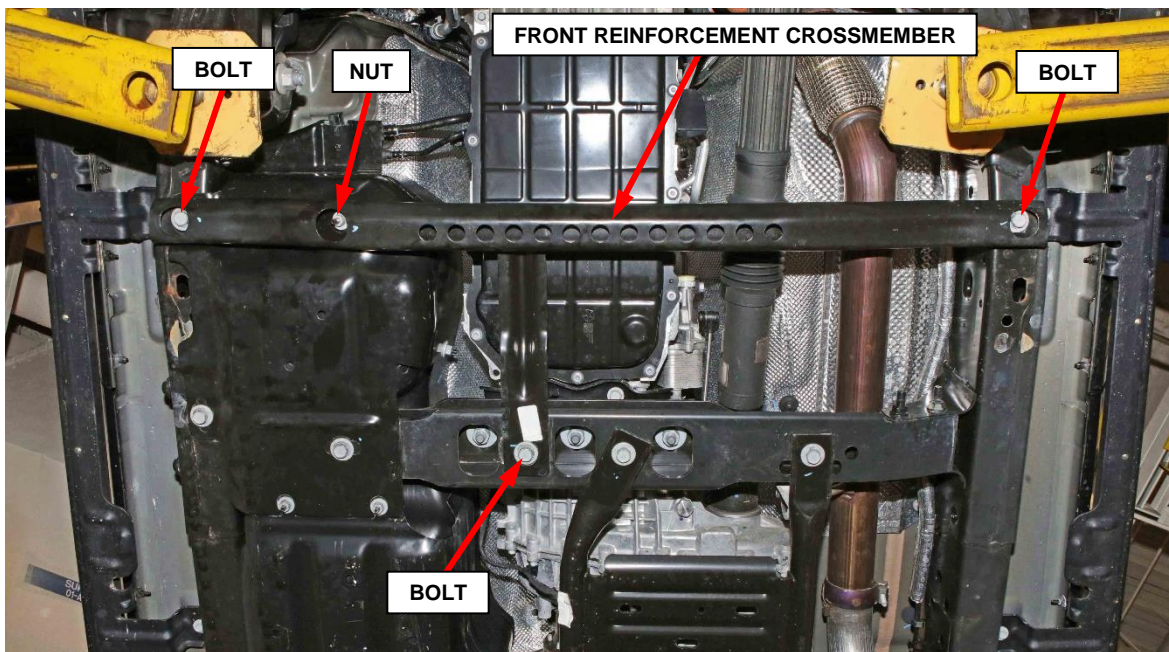

Figure 2 – Front Reinforcement Crossmember
2. Remove the fasteners, three bolts and one nut securing the front reinforcement crossmember then remove the crossmember from the vehicle (Figure 2).
8. Position the front reinforcement crossmember to the vehicle then install and tighten the three bolts and one nut (Figure 2).
6. Position the front reinforcement crossmember to the vehicle then install and tighten the three bolts and one nut (Figure 2).